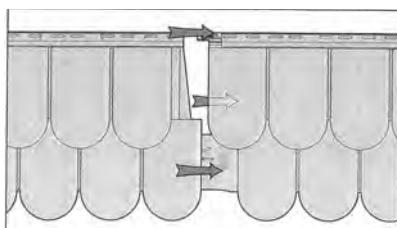

Fig.24
b. Slide the next panel into position. The top half of the panel, except the Nail Hem, slides under, and the bottom half slides over the previous panel. The Nail Hem will be on top of the previous panel (Figure 24). Nail slots can be placed at angle cut for additional nailing.